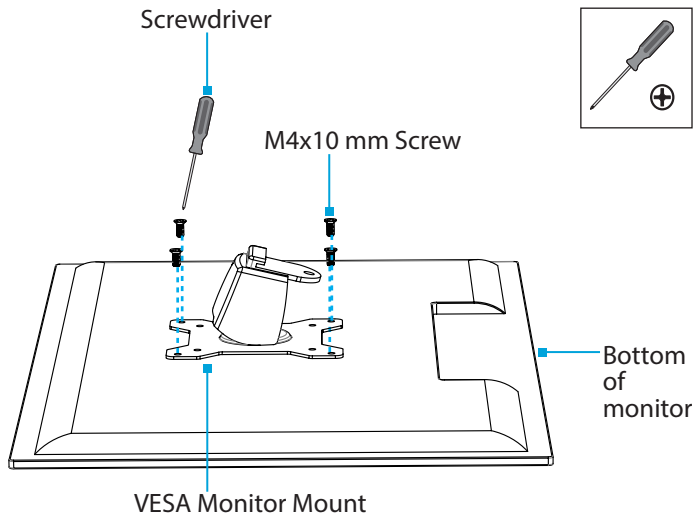

Figure 18
4. Insert the **M4 x 10 mm Screws** (x 4) through the **VESA Monitor Mount** and into the **Monitor** and tighten, using a **Phillips Head Screwdriver**. (Figure 18)